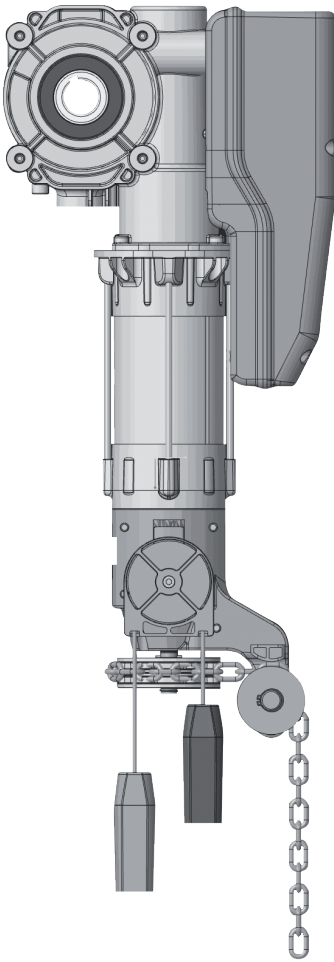

FIG. 16
6.2 SBLOCCO MANUALE - (FIG. 16)